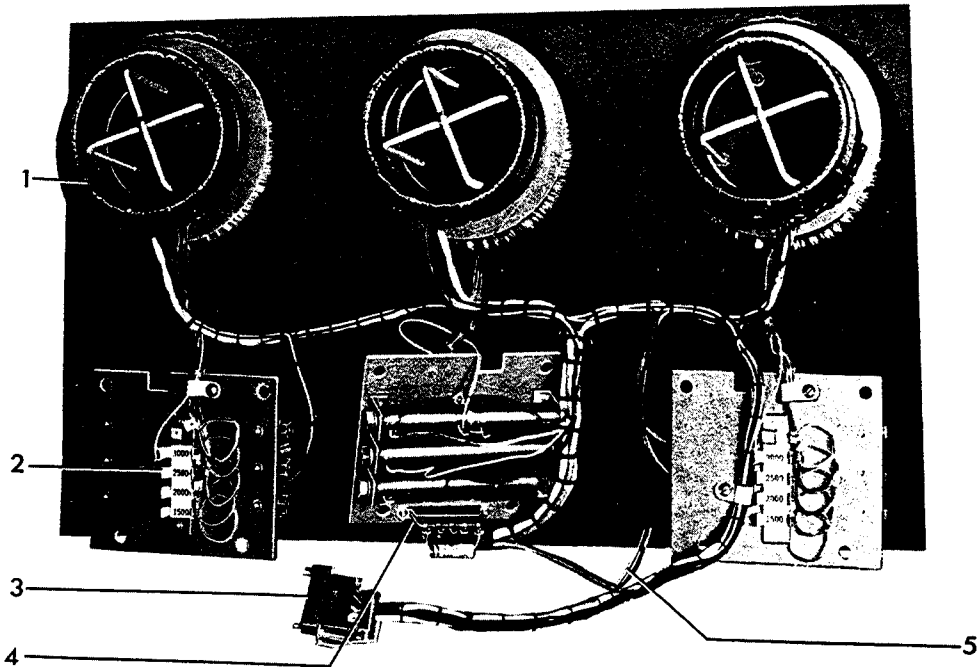

Fig. 33 (8039646) Magnetic Coil Assembly for AK-3 75, 100 Breakers (Only)
**Sensor Coils (AK-3-75/100) Only (Fig. 33)**